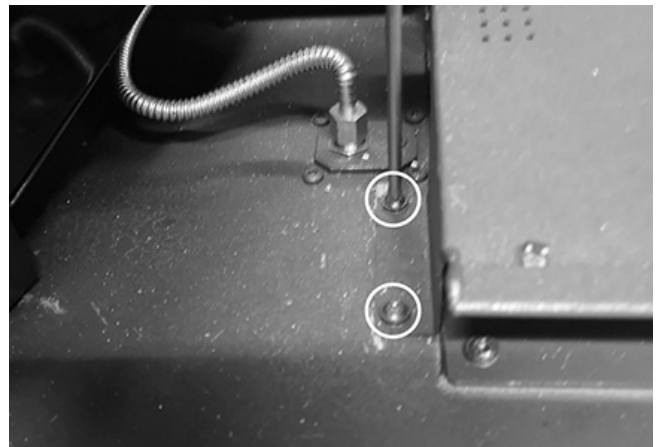

Figure 58: Remove screws on left side of burner.
4. Remove the two screws securing the left side of the burner to the firebox floor. Figure 58